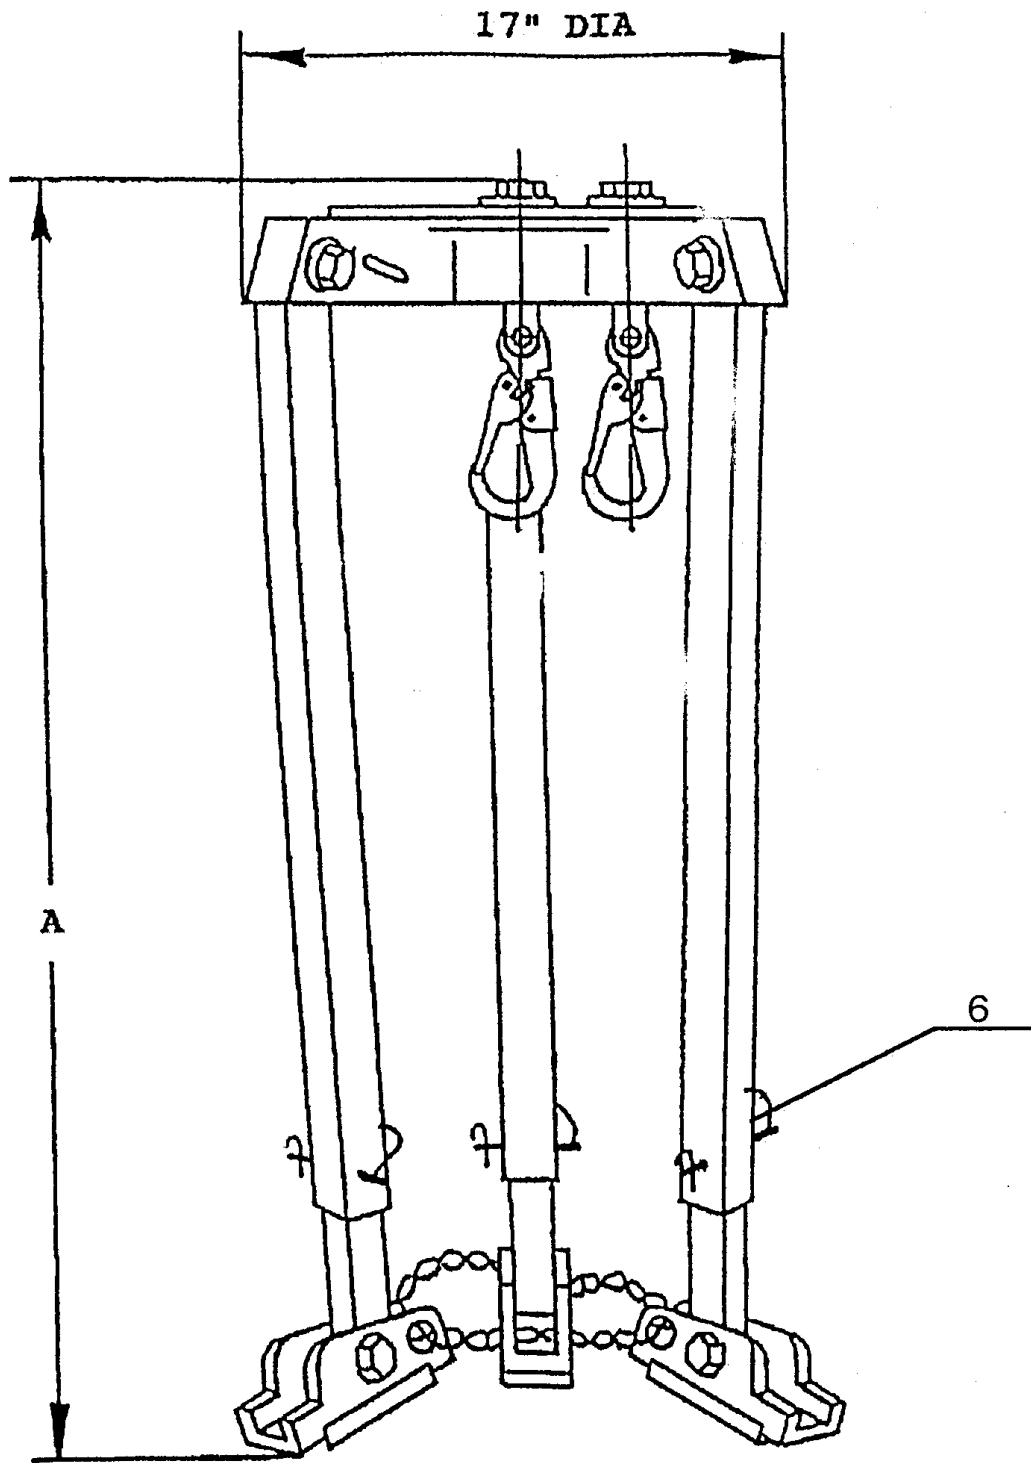

Figure 9. The transport mode of the Tripod
1. Always dismount the devices from the Tripod. Store the Tripod in transport mode (Figure 9) in an area free of corrosive elements and excessive heat.